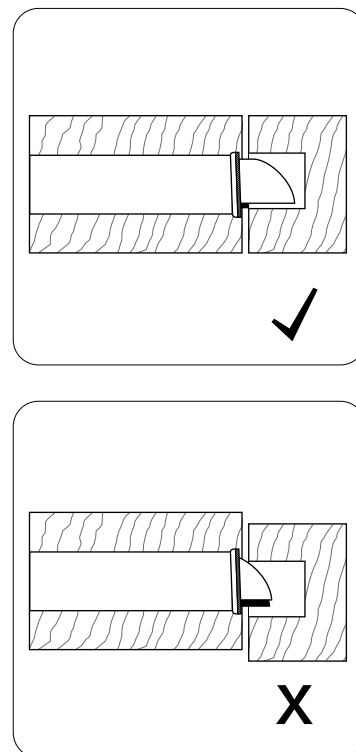

Figure 1
2. After batteries putting in the lock, it is going in a normal situation if the latch is retracted inside once rotating the indoor handle and holds it, and also the latch is fully extended once releasing the indoor handle. Please see the following diagrams in Figure 1.